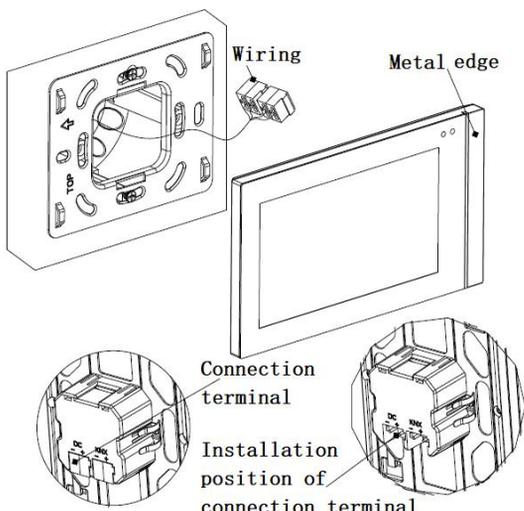

Fig.3.3.3.2
2. (1) Remove the connection terminal on the device and connect it correctly according to the wiring instructions. After wiring, install the terminal to the corresponding position, then the wiring installation is finished, as shown in Fig.3.3.3.2.